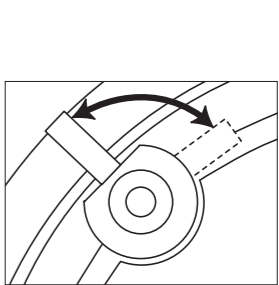

Figure 3. Mounting “dog” rotation.
1. You will find the one loudspeaker bagged in a lower portion of packing. Remove the loudspeaker from the bag. The metal grille is installed on the loudspeaker and will need to be removed. This is easily done by rotating the mounting ‘dogs’ out with your fingers and pulling them towards the front of the loudspeaker. This will push the screw heads against the inside of the grille to work it out of the baffle. (See **Figure 3**)